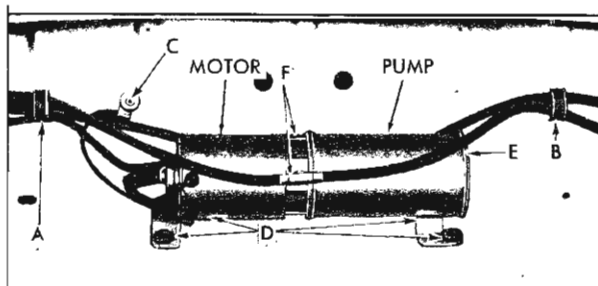

Fig. 21-60 Hydro-Lectric Motor and Pump Assy.
The new high pressure Hydro-Lectric unit used in the Convertible bodies, consists of a 12 volt reversible type motor, a rotor-type pump, two hydraulic lift cylinders, and an upper and lower hydraulic hose assembly. The unit is installed in the body directly behind rear seat back Fig. 21-60.
6. Remove clips securing wire harness and hydraulic hose to rear seat back panel. See "A" and "B" in Fig. 21-60.
7. Disconnect motor leads from wire harness and ground attaching screw. See "C" in Fig. 21-60.
8. To facilitate removal apply a rubber lubricant to pump attaching grommets; then carefully disengage grommets from floor pan. See "D" in Fig. 21-60.
10. With a straight-bladed screw driver, vent reservoir by removing filler plug; then reinstall plug. See "E" in Fig. 21-60.
11. Disconnect hydraulic lines and cap open fittings to prevent leakage of fluid. See "F" in Fig. 21-60. Use a cloth to absorb any leaking fluid, then remove unit from rear compartment.
a. Check connection of motor ground wire to body metal. See "C" in Fig. 21-60.